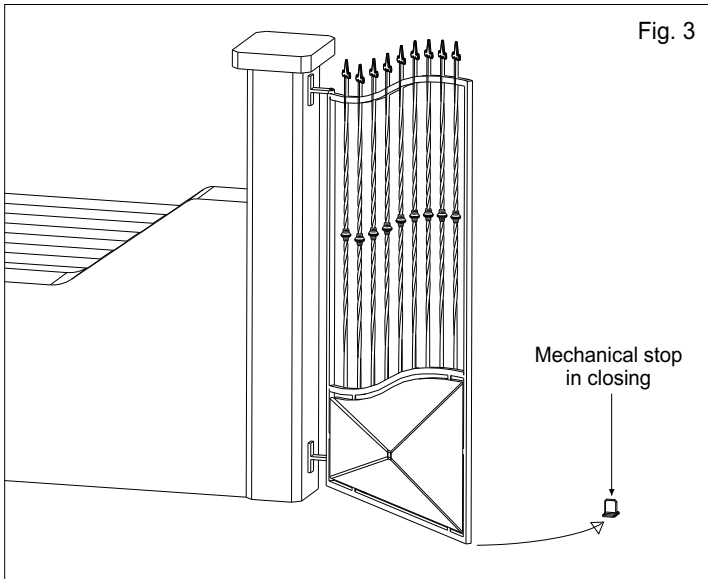

Fig. 3
- E.** in case of leaf length superior of 1,8 m and 150 kg of weight, it is recommended to fix to the ground a mechanical stop in closing (Fig. 3).